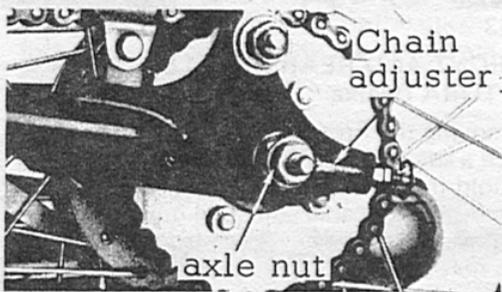

Fig. 45
1. Chain is properly adjusted when there is approximately 3/8 of an inch free play up and down. (Figure 45)